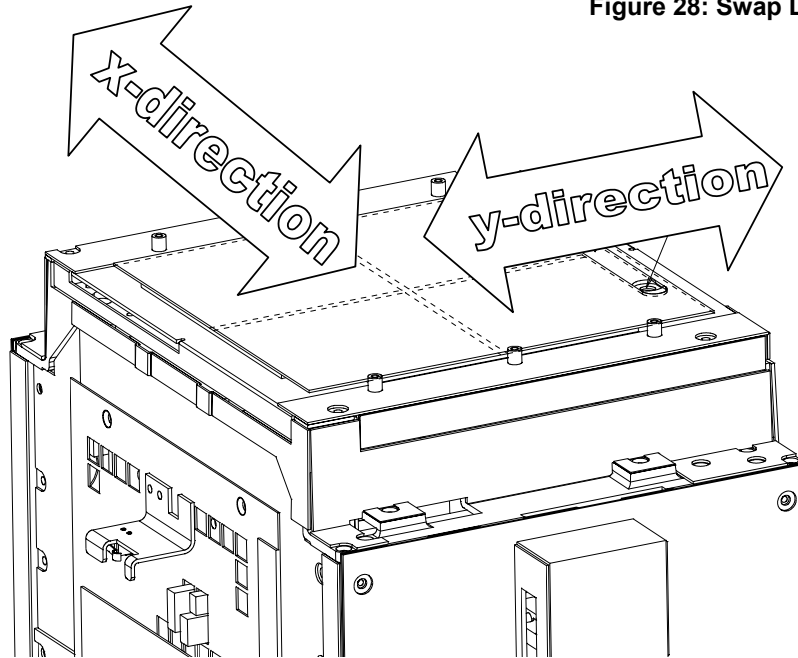

Figure 29: Definition x and y direction
- If after replacement of the lamp, the Check the alignment of the X-Ray Field to the Light Field (chapter 2.2.6, page 22) failed because the Light Field with respect to the X-Ray Field is shifted in x direction. (Definition see Figure 29, page 46)
- If after replacement of the lamp, the Check the alignment of the X-Ray Field to the Light Field (chapter 2.2.6, page 22) failed because the Light Field with respect to the X-Ray Field is shifted in y direction. (Definition see Figure 29, page 46)